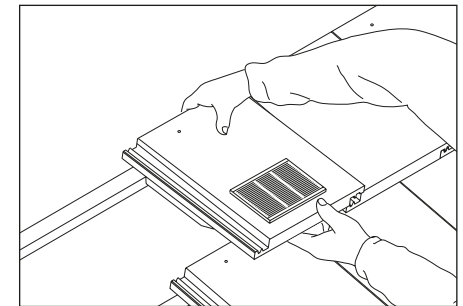

Fig. 6 – Fix contour tile vent
- 5 Insert tile vent unit within main body of tiling and mechanically fix using standard tile clip fixings (Fig. 6).